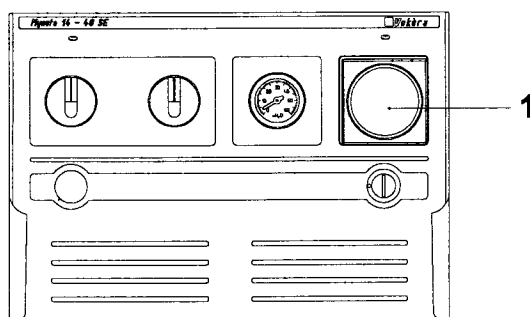

Fig. 1
- (B) Wiring to external time switches, room thermostats and frost thermostats.**
- (C) Wiring to 'Y' plan or 'S' plan installations.**
Remove the clock aperture blanking plate (1) (fig. 1) by squeezing the four lugs on the rear of the plate together and push the plate out.
Remove the clock aperture blanking plate (1) Fig. 1. by squeezing the four lugs on the rear of the plate together and push the plate out.